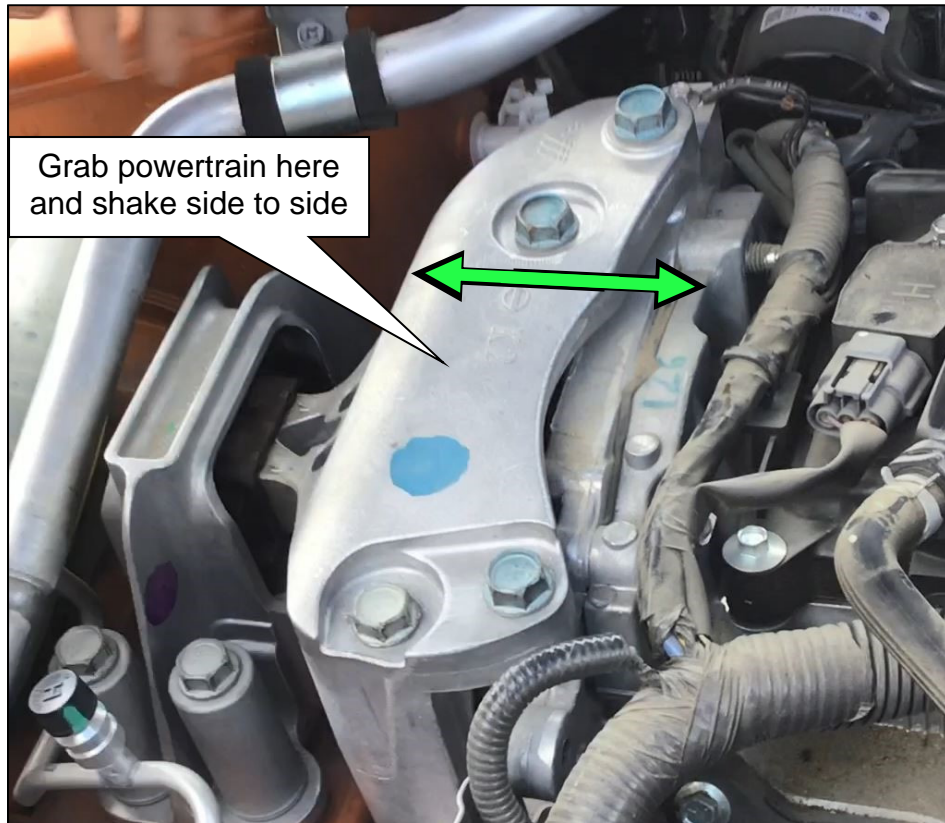

Figure 1
1. Confirm the noise is coming from the Engine Mounting Insulator (RH) as follows:
- c. Grab the Engine Mounting Insulator (RH) at the location shown in Figure 1, and shake the powertrain side to side.